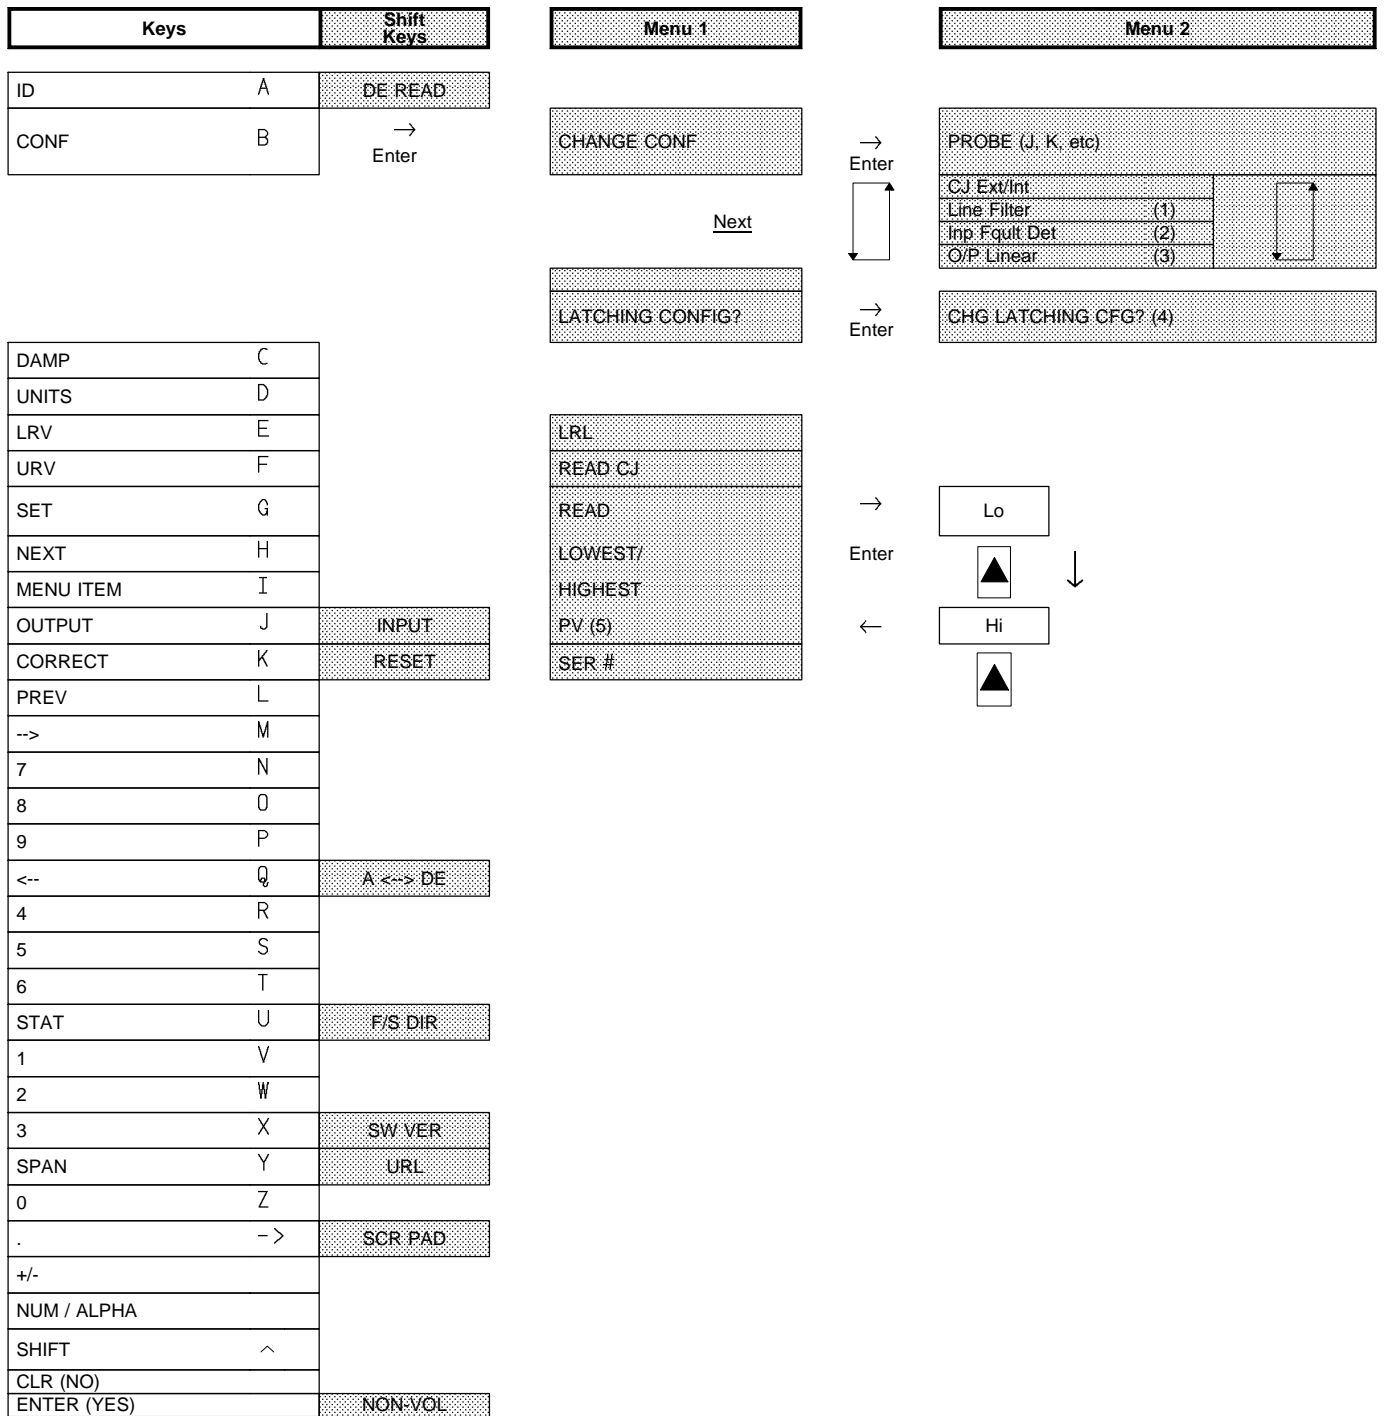

Figure 4-3 Flow chart (Apply to STS101)
- Redundant T/C: T/C 1 should be wired between terminals 4 and 3, T/C 2 (back-up) should be wired between 4 and 2. When "sensor fault detection" is active (See figure 4-3), the analysis of TC1 and TC2 is done continuously. The measurement is made with the best of TC1 and TC2.
The emittance for RH sensor must be entered as follows: Configure the cold junction compensation as External (See figure 4-3) and key in the emittance value (min.: 0.1, max.: 10.0) instead of the external cold junction compensation temperature.
Press status to verify "**status check = OK**" is displayed. Press "**shift**" then "**units**" to access the transmitter database and configure it as required. As mentioned earlier the default shipping mode for units is mV input, 0 - 45 mV range etc. You can now customise the unit to your specific application. The flow chart in Figure 4-3 gives simplified overview of selections and key strokes.
This addendum outlines additional steps for the Configuration Flow Chart in Figure 4-3 of this Operator Manual to configure parameters for DE communications mode and change transmitter operation from analog to digital DE communications. The DE configuration parameters are:
STT350 Configuration Flow Chart: Use the following flow chart to supplement in Figure 4-3 if you want to set your STT350 for DE communications operation.
Continued from Figure 4-3	<input type="text" value="Ready"/>